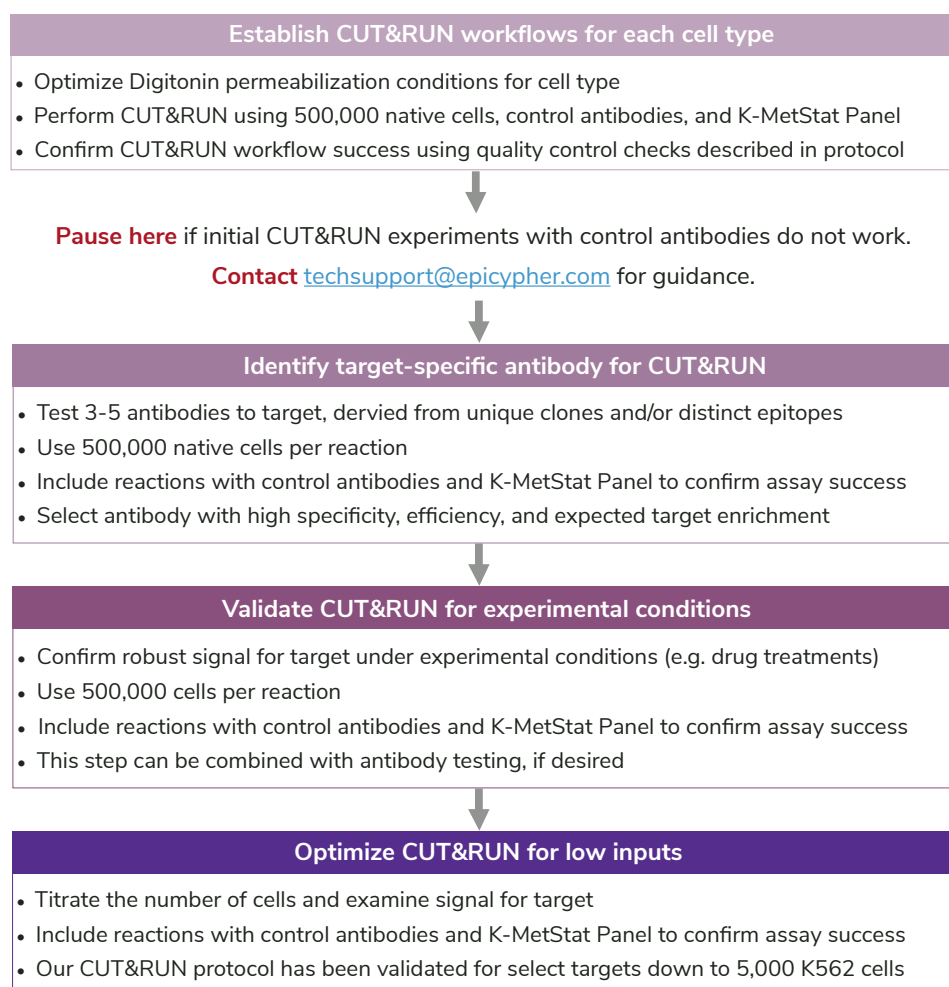

FIGURE 5
- For new targets, test antibodies from multiple vendors, as detailed in Figure 5. Select the antibody that gives the best balance of expected target enrichment, low background, and high yields.
- CUT&RUN optimization is reviewed in Figure 5. See support.epicypher.com for guidance.